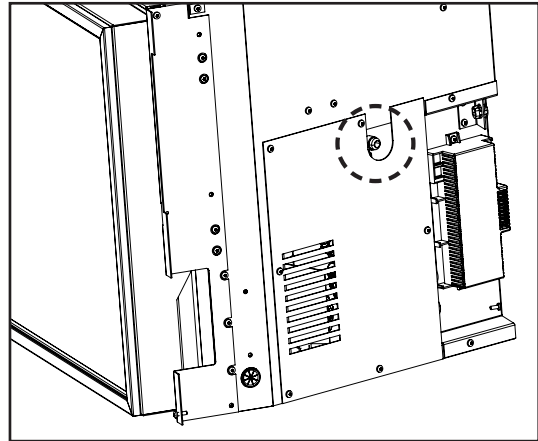

Figure 35: Gas connection location
- A 3/8" 45° flared fitting is supplied with the unit (see Figures 35 and 36). Consult the local authorities for local codes or use the CAN/CGA B149 (1 or 2) installation code in Canada. In the US, gas installations follow either local codes or the current edition of the National Fuel Gas Code ANSI Z223.1.